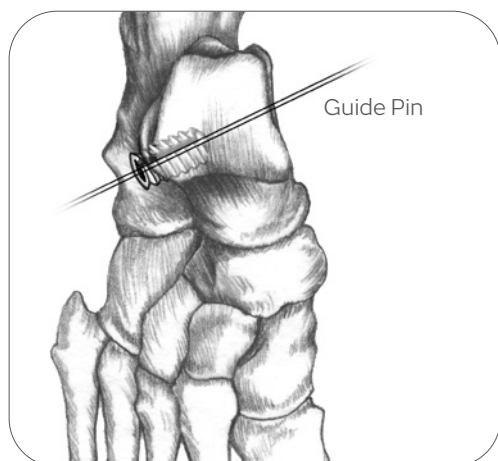

Figure 6-1
**6-1** To determine the correct position on the AP view, the leading edge of the trial implant should approach, but not cross the longitudinal dissection of the talus (**Figure 6-1**).